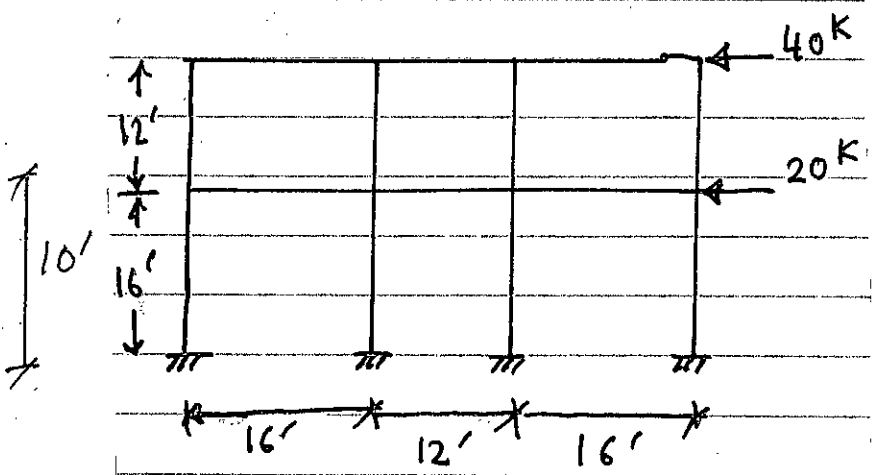

Fig. 6
8. Draw shear force diagram, bending moment diagram and axial force diagram of the beams and columns of the multi-storied building frames loaded as shown in Figure 6 (Use Portal Method). (28)